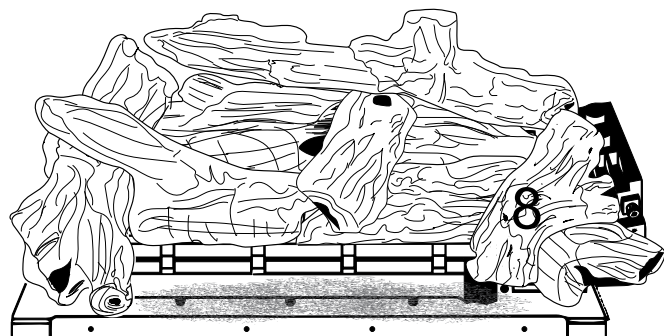

Figure 5.9 - Log #8 Placement
9. Hold Log #8 with the branched end away from you. Place log #8 by positioning the pin locator hole on the bottom of the log over the pin on log #1 and by rotating the log counter clockwise to match the notch on the log with the first tine on the grate. See Figure 5.9.